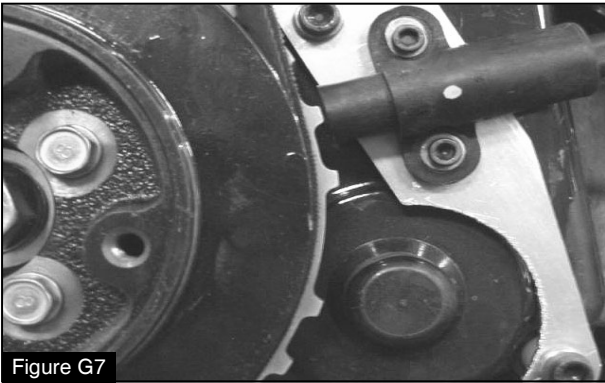

Figure G7
8. Rotate the crankshaft pulley so that one of the gear teeth on the timing wheel aligns in the center of the VR sensor (Figure G7).